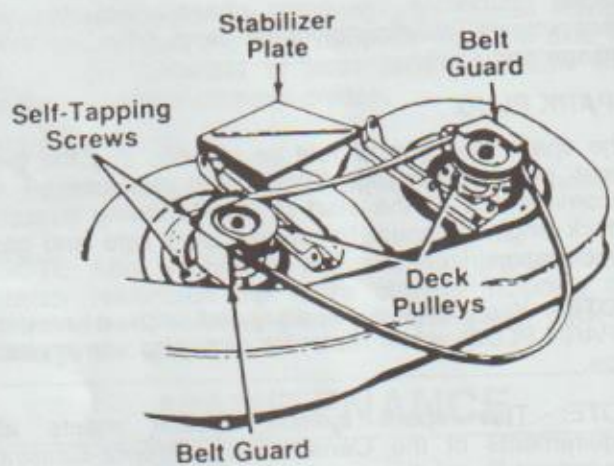

FIGURE 21
10. Remove the belt guards at each deck pulley by removing the self tapping screws. See figure 21.